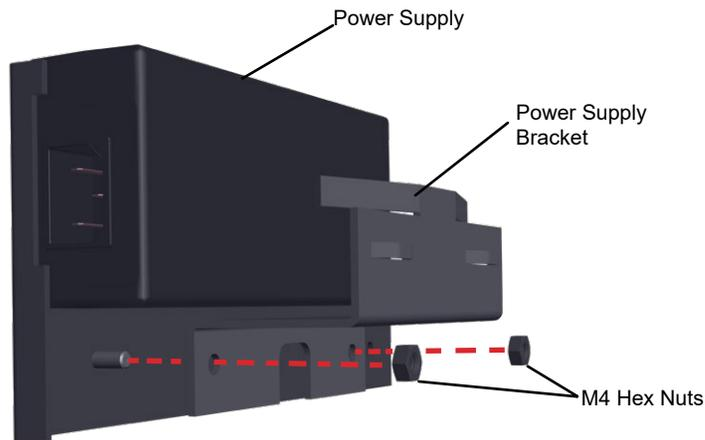

Figure 7. Remove bracket and power supply from long rack ear
2. Disconnect the power supply supporting bracket from the longer (R) rack mount bracket (Figure 7). Reserve the hex nuts for reattachment to the wall bracket.